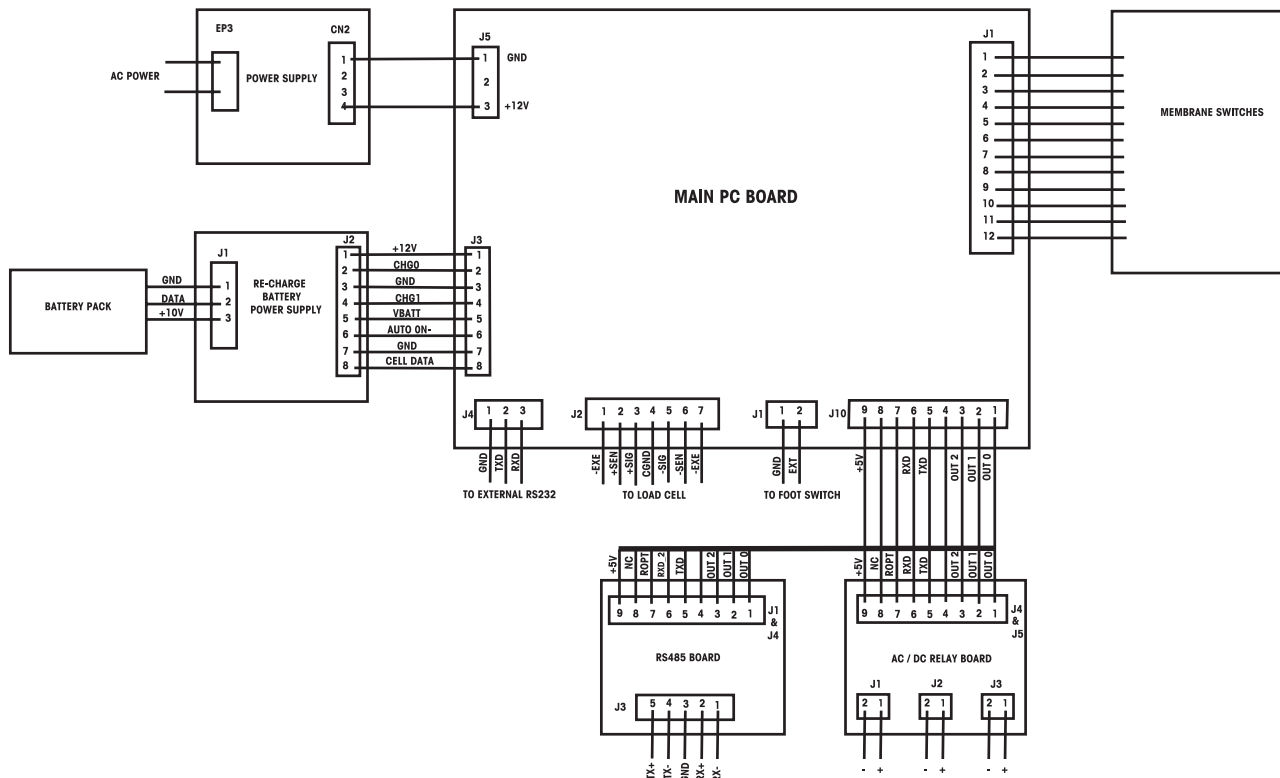

Figure 3-2. Interconnection Diagram.
4. Refer to Figure 3-2, Interconnection Diagram that illustrates the interconnections to the Main PC Board and is shown as a top view.